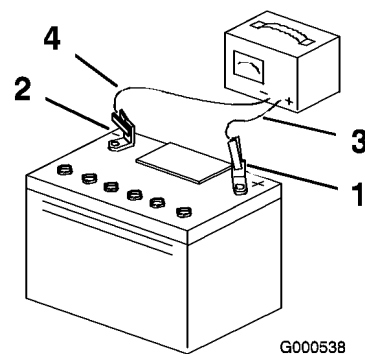

Figure 30
4. When the battery is fully charged, unplug the charger from the electrical outlet, then disconnect the charger leads from the battery posts (Figure 30).